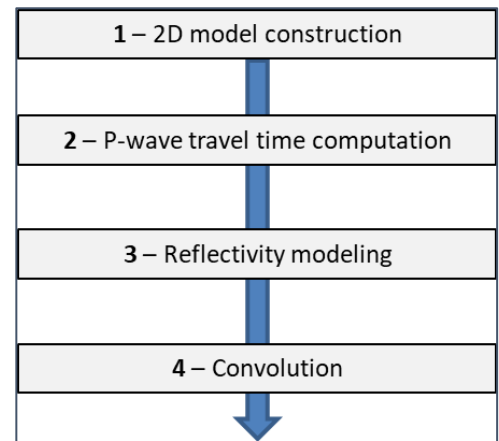

Figure 109: AVO Modeling workflow.
AVO modeling workflow is made of 4 steps quoted on Figure 109.
- Functionalities tabs enable to follow the modeling workflow defined in Figure 109.
- 30) Fulfil the complete workflow described in Figure 109 to characterize expected effects of such a salt tongue occurrence on seismic amplitudes. Loading of the salt tongue model could be achieved simply by clicking on the *Load default Velocities* button in the *Velocity Model* tab.